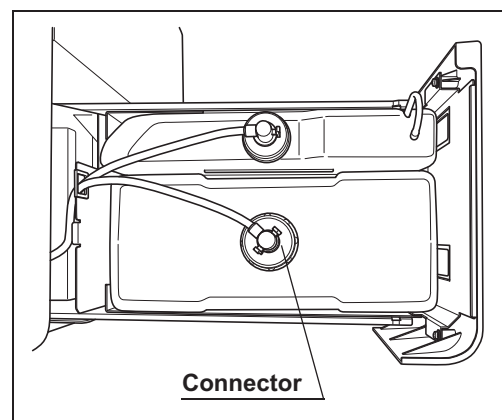

Figure 4.133
- 11 Turn the connector to correct the tube orientation as show in Figure 4.133. Confirm that the tube is not bent.